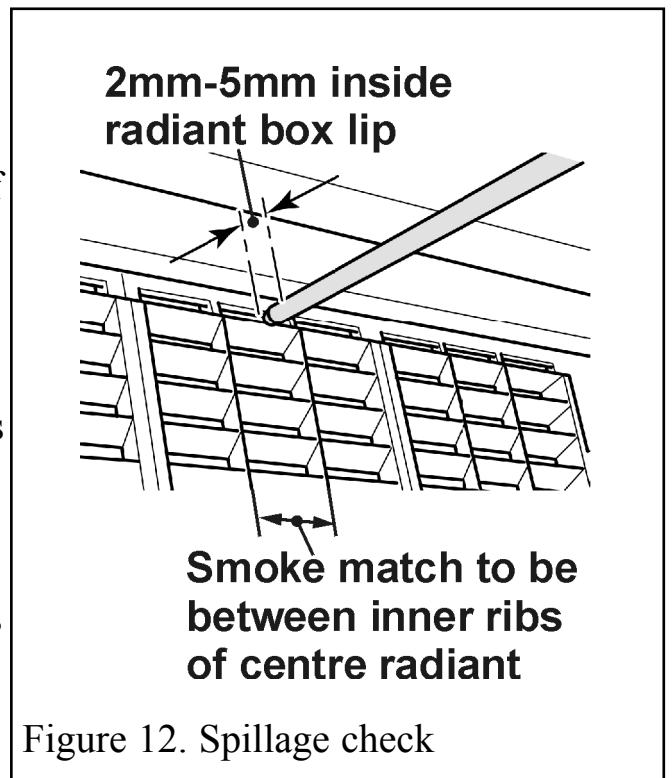

Figure 12. Spillage check
4. Place a smoke match tube (with lighted match) horizontally underneath the radiant box but touching the top lip of the box. The tube should be between the two vertical inner ribs of the centre radiant. The tip of the match should project between 2mm and 5mm beyond the lowest edge of the radiant box lip. See figure 12.